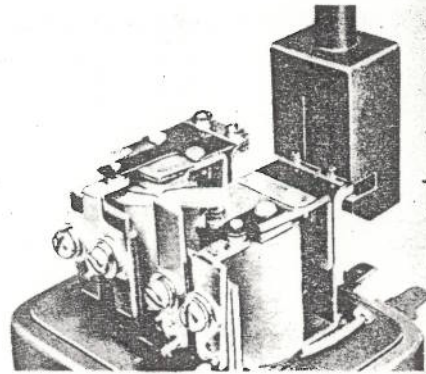

Fig. 10-147
4) If the adjusting screw fails to adjust the voltage, adjust the voltage regulator by bending the lug on the yoke with use of adjuster as illustrated in Fig. 10-147.